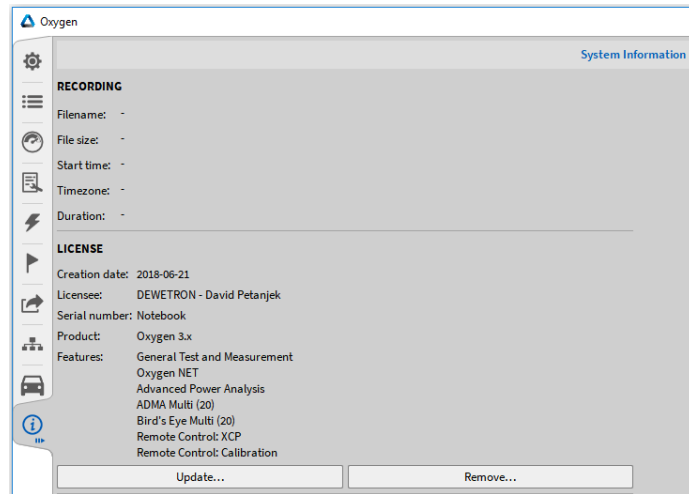

Figure 1-8: Updating the OXYGEN-license
- A software license is only required for data recording. The license can be updated under the System Information tab (see Figure 1-8). This requires a *.lic-file provided by DEWETRON. You can find the license on your *Install Media* USB stick in the folder `\files\software\Oxygen`. A license update requires a restart of Oxygen.